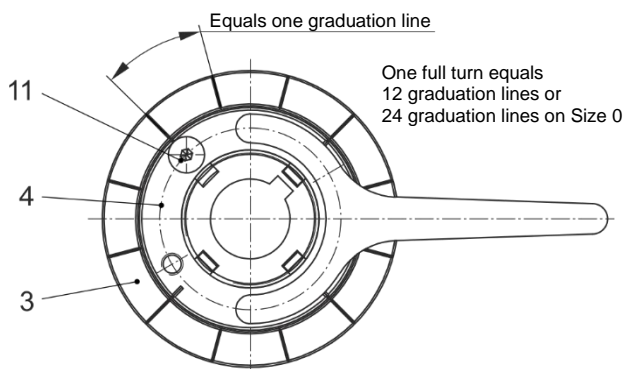

Fig. 10
Torque adjustment is carried out by turning the adjusting nut. Turning clockwise causes an increase in torque, turning anti-clockwise causes a reduction in torque (facing the adjusting nut, as shown in Fig. 10).
1. Grease the thread and contact surfaces on the adjusting nut (4), the lock washer (10) and the hub (1).
2. The adjusting nut (4) is adjusted by hand up to contact on the cup springs.
3. Continue to turn until the 4 notches on the adjusting nut (4) and the notches in the control element (3) align, Fig. 10.
4. Turn the adjusting nut (4) further using a face wrench to the number of graduation lines which equal the required torque, Fig. 10 (number of graduation lines in the Adjustment Diagram).
5. Screw in the locking screw (11) (the notches on the adjusting nut (4) and on the control element (3) must be in the same position).
To do this, please remove the locking screw (11) and adjust the graduation lines using a face wrench, Fig. 10. Afterwards, the locking screw (11) is screwed in again. Here it is essential to ensure that the 4 notches on the adjusting nut (4) and the notches of the control element (3) are aligned.